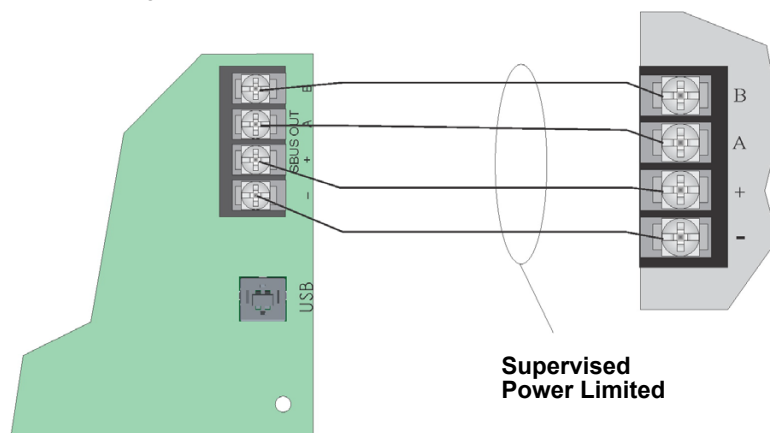

Figure 4.8 SBUS Class B Wiring
Figure 4.8 illustrates SBUS, Class B configuration.
3. Wire the Annunciator board to the main control panel. See Figure 4.8.